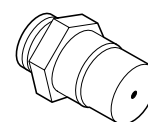

Figure 66
Step 8. Remove the orifice from the manifold and replace it with the one provided with the kit. See the following table for orifice sizes for natural and propane models. **Figure 66** illustrated the orifice.